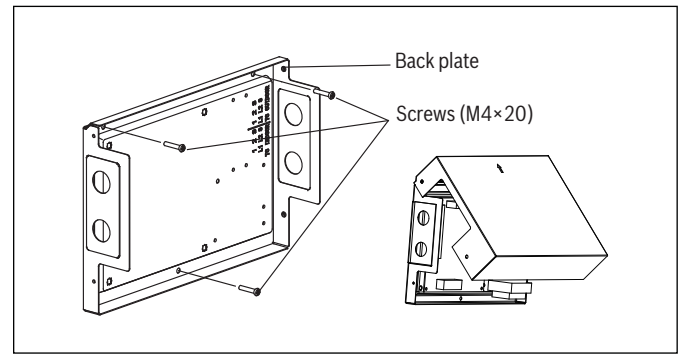

Figure 4
2. Mount the back plate of the 24V INTERFACE on the wall. Mount the 24V INTERFACE vertically and fasten the back plate to the wall with 3 screws (M4 x20) and anchors (see Fig. 4).